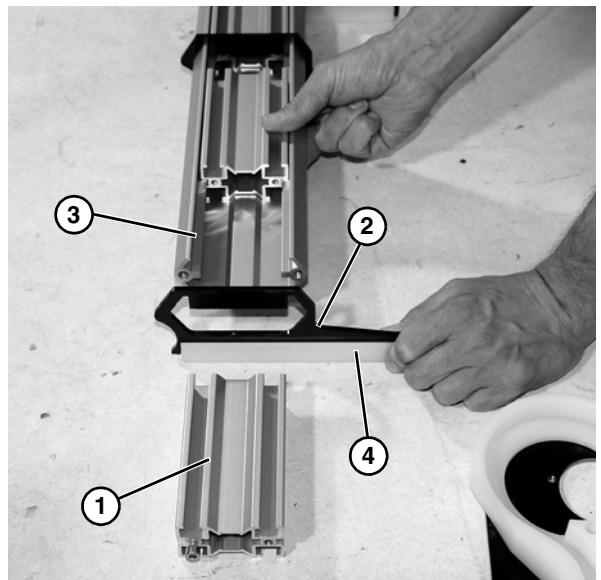

Figure 57
14. Remove each extrusion (Figure 57, item 1) and support plate (Figure 57, item 2) from crossmember (Figure 57, item 3).
15. Inspect and replace wear strip (Figure 57, item 4) if necessary.